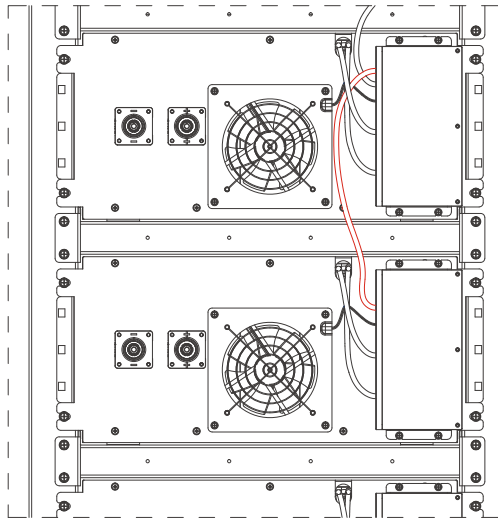

Figure 2.7
(3) It is the same for the connection between the previous BMU communication output port and the next BMU communication input port. Note: The BMU communication input port (Link Port In) at the lower end and the output port (Link Port Out) at the upper end (Figure 2.7).